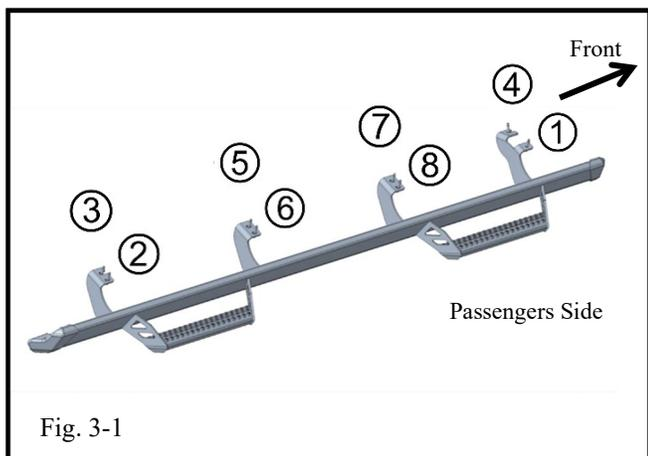

Fig. 3-1
- (a) In numerical order, tighten (but do not torque) the bolts as shown in Fig. 3-1.
- (b) Tighten (but do not torque) the remaining bolts as indicated in Fig. 3-1.
- (a) Follow the tightening sequence in Fig. 3-1 to torque the “outside bolts” ① through ④ .
- (b) Follow the tightening sequence in Fig. 3-1 to torque the “inside bolts” ⑤ through ⑧ .